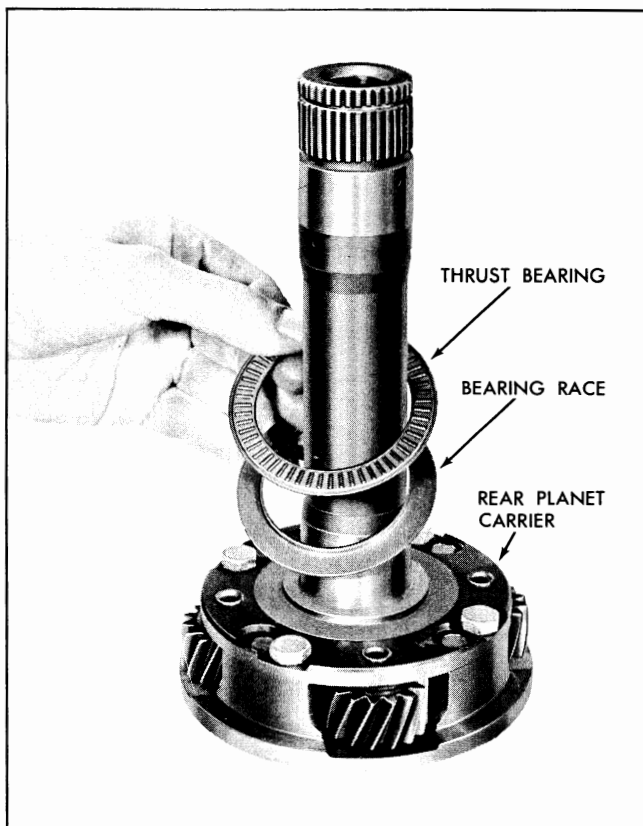

Fig. 7C-120 Installing Thrust Bearing on Rear Planet Carrier
2. Install thick bearing race, thrust bearing, thin cupped bearing race on front sun gear and shaft assembly (Fig. 7C-118).